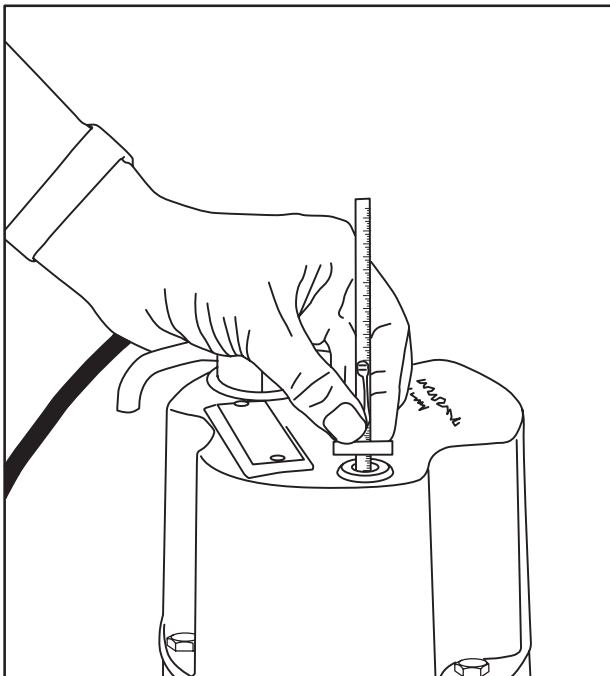

Fig. 13
6. Refill motor with Myers submersible motor oil, **DON'T OVER FILL WITH OIL. OIL LEVEL SHOULD BE ONE INCH FROM TOP OF CASTING.** Fig. 13
5. Replace capacitor housing and refill motor with Myers submersible oil. See Fig. 13 for oil level. One inch from top of casting.